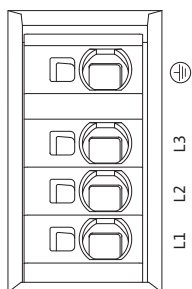

Fig. 30: Power terminals (mains connection terminals)
- Power terminals (mains connection terminals) (Fig. 30)